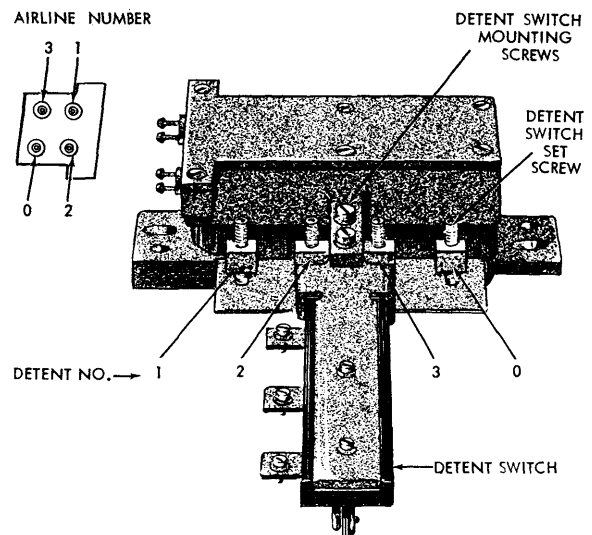

Figure 72. Ten Million Character File Track Detent Assembly
4. Apply air to any track detent piston and adjust that detent's set screw until the N/O contact is just made. Then turn the set screw 1/4 turn clockwise (See Figure 72).